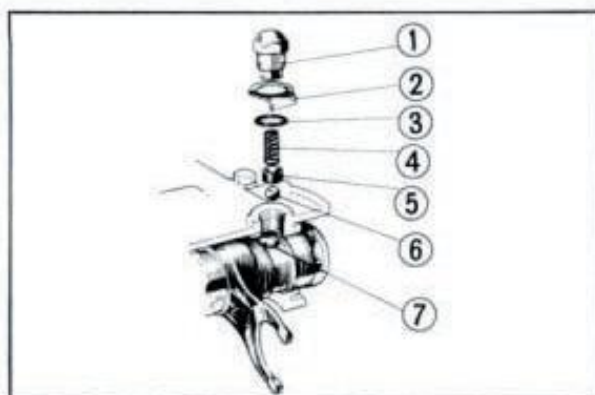

Fig. 128 ① Guide screw ④ Spring
3. Place the counterbored section of the shift drum as shown Fig. 128, and install the steel ball, the spring cap, and the spring then lock with the shift drum screw.